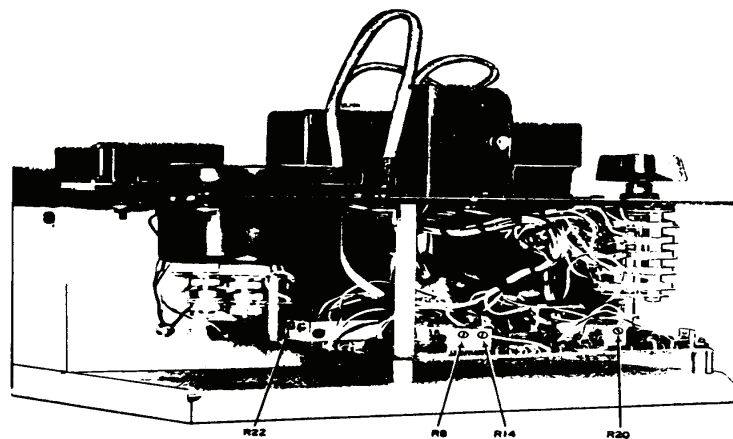

Figure 1. Channel alignment indicator - left side view.
(1) Adjust dc power supply for an indication of 12 V dc on multimeter.
(2) Set and hold **BAT TEST** switch to **XMTR** position while adjusting R20 (fig. 1) for a meter indication at the upper edge of yellow area (R).
(1) Adjust dc power supply for an indication of 5 V dc on multimeter.
(2) Set and hold **BAT TEST** switch to **RCVR** position while adjusting R14 (fig. 1) for a meter indication at center of yellow area (R).
(1) Adjust dc power supply to 10 V dc.
(2) Adjust R8 (fig. 1) for a meter indication at lower edge of yellow area (R).
(1) Connect calibrator to **TEST PROBE TIP** and ground and set **TI FUNCTION** switch to **VFO** or **VCO**.
(2) Set calibrator for an output of 0.0 VDC.
(3) Adjust dc power supply output for a 12-V dc indication on multimeter. If TI meter does not indicate at center **ALIGN** mark, perform **b** below.
(4) Adjust calibrator for extreme right indication on TI meter scale. Calibrator will indicate between +1.25 and +1.4 V dc.
(5) Reverse calibrator leads. Adjust calibrator for extreme left indication on TI meter scale. Calibrator will indicate between -1.25 and -1.4 V dc. Disconnect calibrator from TI and adjust dc power supply output fully ccw.
b. Adjustments. Adjust R22 (fig. 1) for an **ALIGN** indication on meter of TI (R). Repeat technique of (2) through (5) above until no further adjustment is necessary.